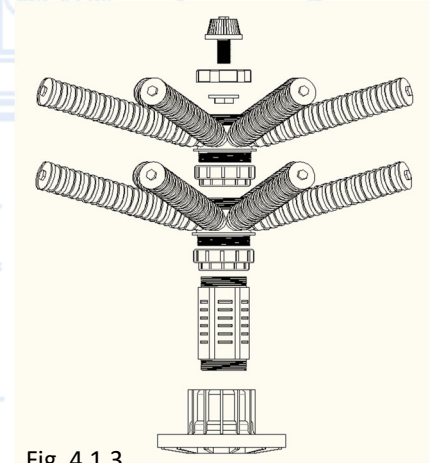

Fig. 4.1.3
- If the internal distribution was previously installed, (figure 4.1.3) check the distribution for any damage that may have occurred in shipping. This inspection is critical because if the distribution is broken, media will be flushed into the service lines.